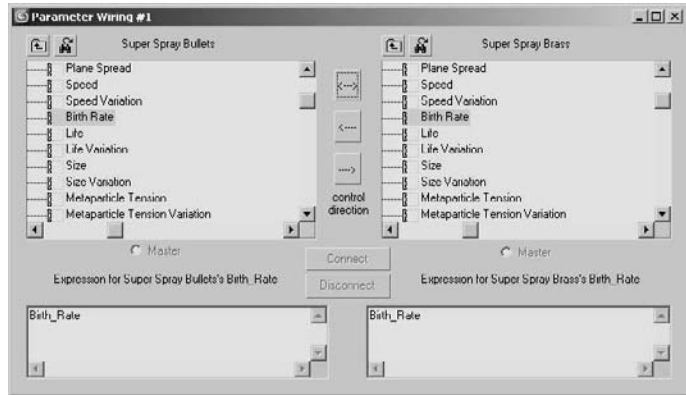

Figure 12.29
- The Parameter Wiring dialog box opens, as shown in Figure 12.29. The Birth Rate parameters are highlighted in both the left and right windows. The left side of the dialog box displays the Super Spray Bullets particle system's parameter, and the right side displays the parameters for the Super Spray Brass particle system.